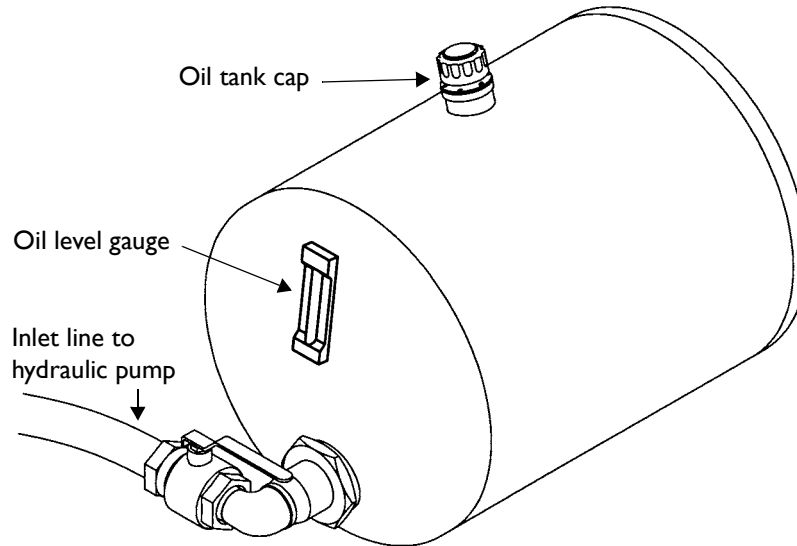

Figure 18
CAUTION. Keep the oil level above the hydraulic inlet line leading to the pump (see *Figure 18*, below). The pump will be seriously damaged if oil does not flow into it.
The oil tank is located on the side of the carrier. The oil level gauge is located on the side of the tank (see *Figure 18*, below).
2. Unscrew the cap on the top of the tank and add the oil while watching the gauge (see *Figure 18*, above).